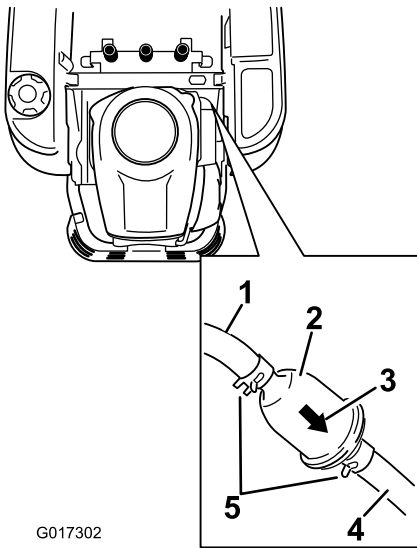

Figure 38
3. Locate the fuel filter on the side of the engine as shown in Figure 38.
4. Squeeze the ends of the hose clamps together and slide them away from the filter (Figure 38).
6. Install a new filter with the flow direction arrow coming from the fuel tank and pointing to the engine. Move the hose clamps close to the filter (Figure 38) to secure it in place.